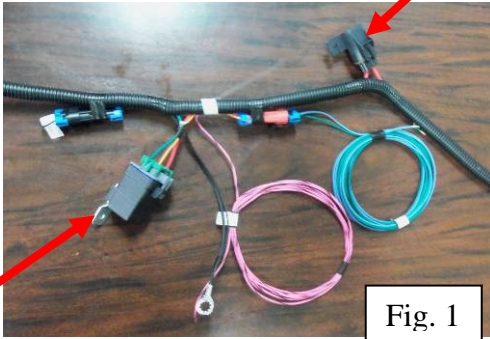

Fig. 1
2. Mount the relay(s) and fuse holder(s) on the firewall, inner fender, or another location away from any heat source. Also, make sure the red wires are long enough to reach the power source, battery or fuse box, and the green and black (and blue and black) wire leads are long enough to reach the fan(s) (Fig. 1).